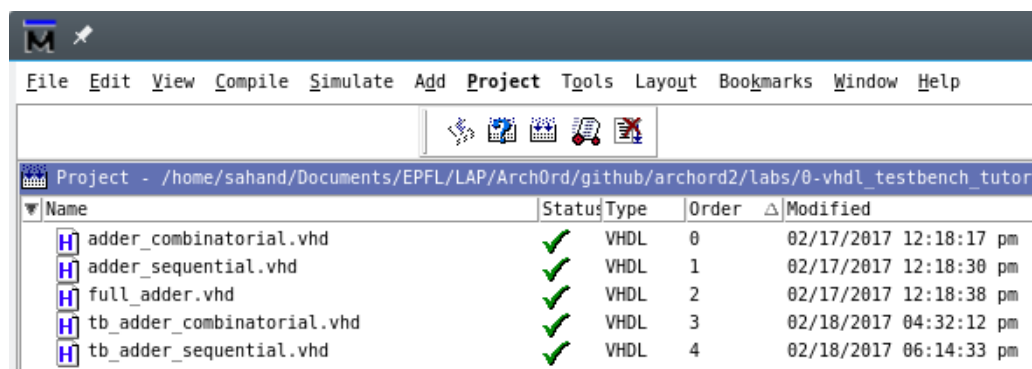

Figure 15: Compiling all testbenches
1. Click on the  icon to compile all sources. You should get something similar to Figure 15. All files should successfully compile as they now all contain valid VHDL.